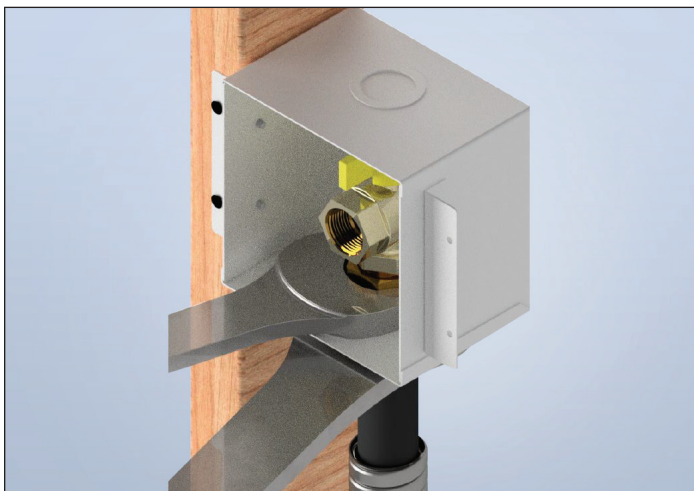

Figure: 1-8
8. Slide Metal Wall Box up and over the male threads of the Nut. Mount the Metal Wall Box firmly to the stud. Provide full support by fastening both mounting tabs to the structure when required by local codes. Thread and tighten the Floppy Conduit Adapter onto the Nut to secure the valve assembly to the Metal Wall Box (Figure 1-8).